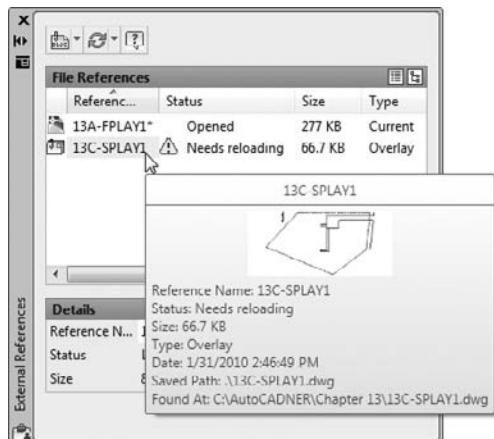

FIGURE 13.21 The External References palette showing the status of the xrefs
7. Open the External References palette, as shown in Figure 13.21, and stretch it to make it wider.